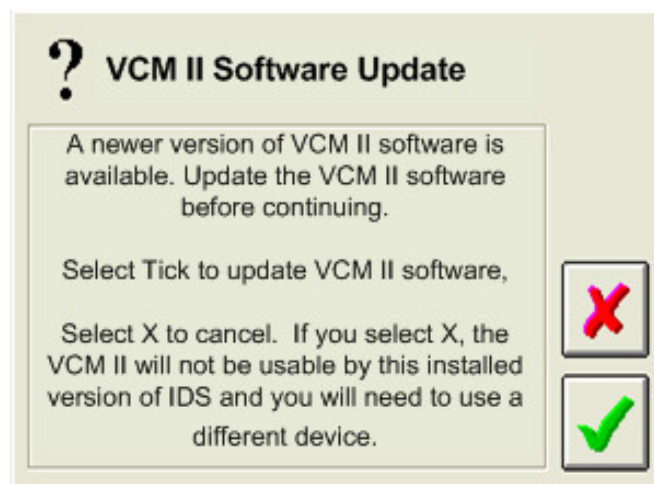

Figure 3: VCM II Update Pop-Up Window
10. The IDS pop-up window shown in Figure 3 will appear notifying the user that a new version of VCM II software is available. Select the Tick button to update the VCM II software.